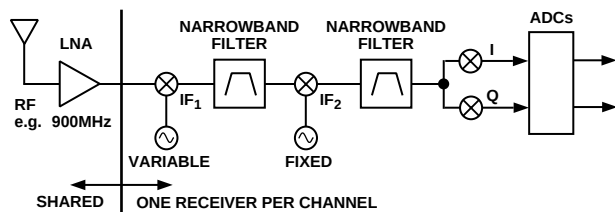

Figure 43. Narrowband Digital Receiver Architecture
Several key technologies are now being introduced that may forever alter the vision of radio. Figure 43 shows the typical dual conversion superheterodyne receiver. The signal picked up by the antenna is mixed down to an intermediate frequency (IF) using a mixer with a variable local oscillator (LO); the variable LO is used to “tune-in” the desired signal. This first IF is mixed down to a second IF using another mixer stage and a fixed LO. Demodulation takes place at the second or third IF using either analog or digital techniques.
However, as general purpose DSP chips such as the ADSP-2181 become more popular, they will be used in many baseband-sampled applications like the one shown in Figure 43. As shown in the figure, prior to ADC conversion, the signal must be mixed down, filtered, and the I and Q components separated. These functions are realizable through DSP techniques, however several key technology breakthroughs are required: high dynamic range ADCs such as the AD6640, new DSPs (highly programmable with onboard memory, fast), digital tuners and filters such as the AD6620, wide band mixers and amplifiers.
In the narrowband receiver (Figure 43), the signal to be received must be tuned. This is accomplished by using a variable local oscillator at the first mix down stage. The first IF then uses a narrow band filter to reject out of band signals and condition the selected carrier for signal demodulation.